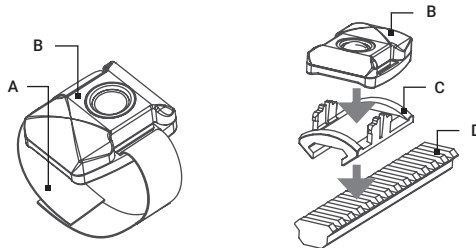

FIGURE 2-4. WIRELESS REMOTE CONTROL
Using the supplied Velcro® tape (A, Figure 2-4), fasten the remote control (B) to your weapon in an easily accessible place (e.g., on the front of the rifle stock).